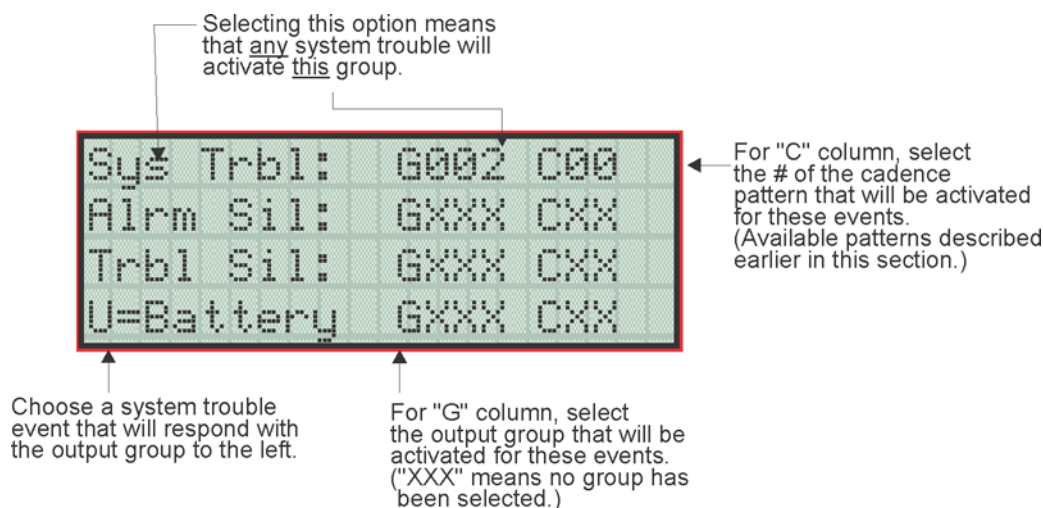

Figure 7-16 System Trouble Event Mapping Example
5. Press 1 for Trouble Events. A screen similar to the one in Figure 7-16 will display. Select a group and a cadence pattern for each event as needed for your application. The U: field is for a user-specified trouble condition. You can program an output group and cadence pattern for any of the following events: